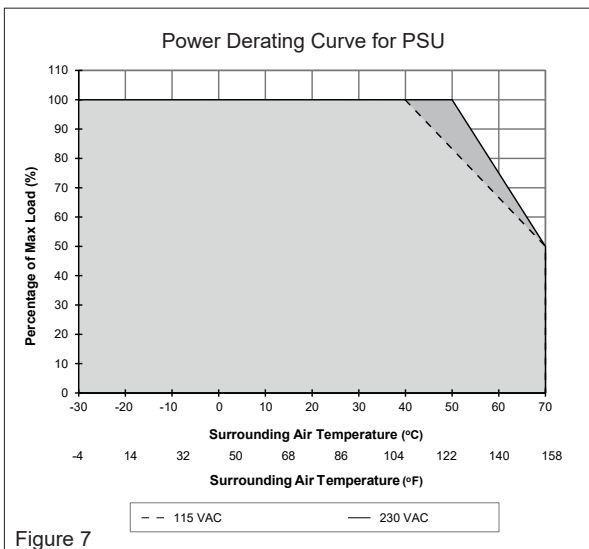

Figure 7
5.4. Thermal behavior (Fig. 7)
If the output capacity is beyond what is recommended in Fig. 7, the device will run into thermal protection by switching off i.e. the output voltage will go into latch-off mode until the component temperature cools down and the AC power is recycled.
Operating temperature (surrounding air temperature)	Refer to Fig. 7